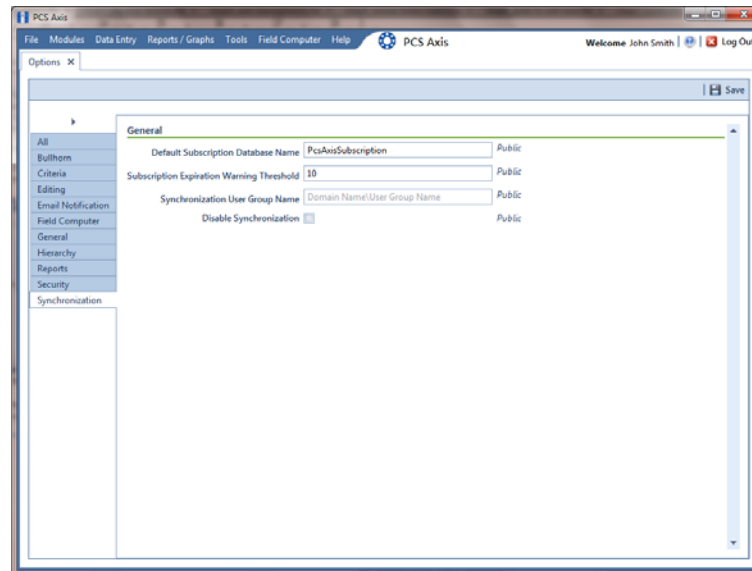

Figure 3-14. Synchronization
- 1 Click **Tools > Options > Synchronization** to open the synchronization property settings window (Figure 3-14).